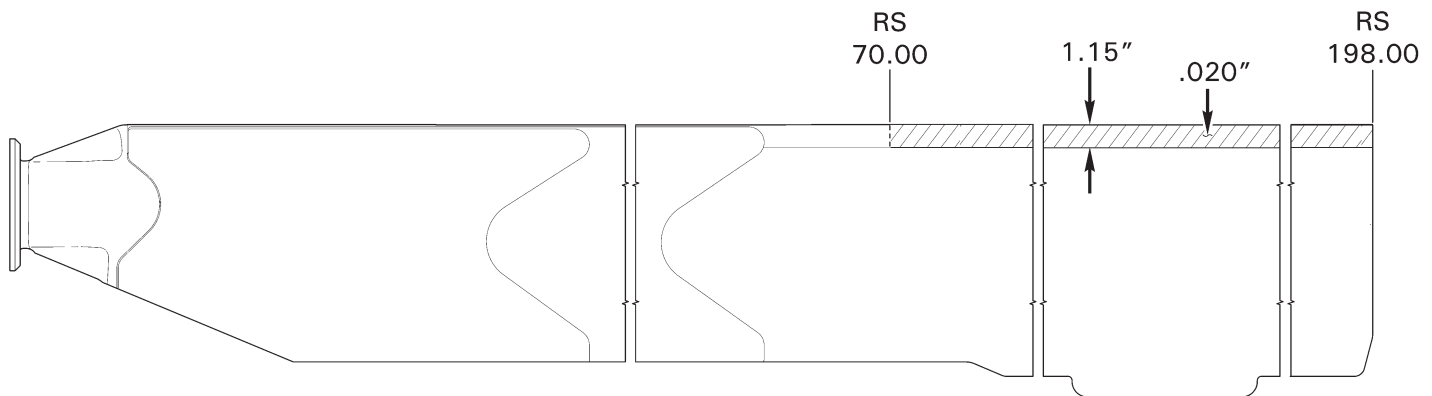

FIGURE 62-13 SPAR DAMAGE
1. Refer to Figure 62-13. Spar damage limits exclude leading edge cap. Verify damage does not exceed the following limits: